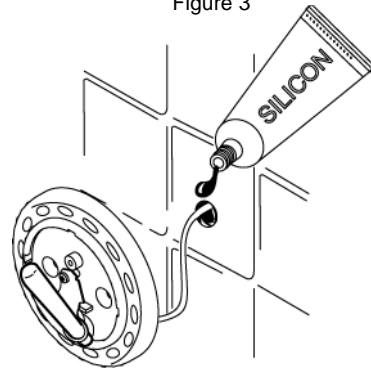

Figure 4
- Screw or glue the sensor cover to the wall. Cover the temperature holder by twisting the cap. Figure 4.